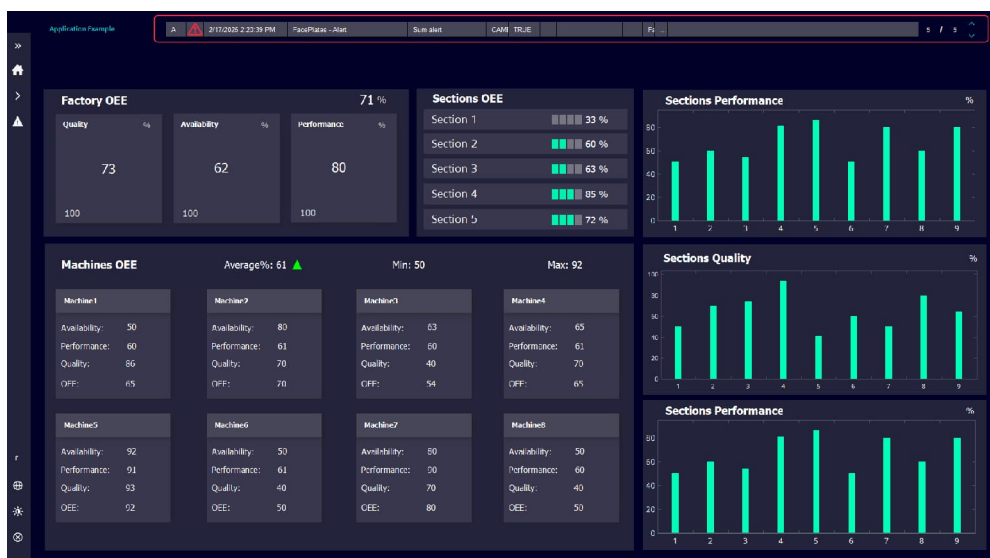

Figure 2-15 Starting screen of the template
- All values in the previous Dashboard panel in Figure 2-15 are static (not changing), as there was no simulation or driver connectivity implemented in this example.
- The name of the project appearing in the header of Figure 2-15 (which is in our case “Application Example”) can be set up by changing the “projectTitle” keyword value in the project.cat file under the path “Message Catalogs/project.cat” in the framework project.